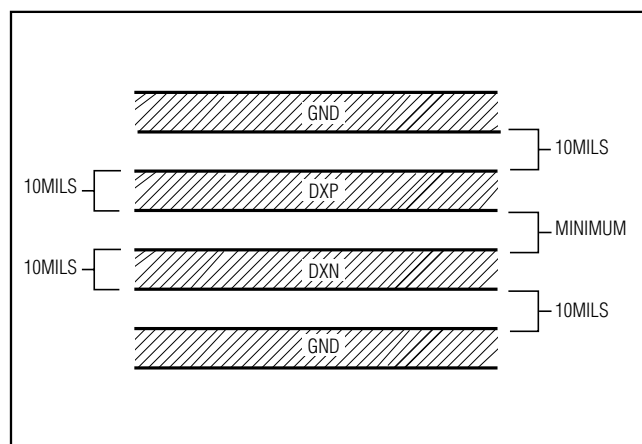

Figure 1. Recommended DXP-DXN PC Traces
- 3) Route the DXP and DXN traces in parallel and in close proximity to each other, away from any higher voltage traces, such as  $+12\text{VDC}$ . Leakage currents from PC board contamination must be dealt with carefully since a  $20\text{M}\Omega$  leakage path from DXP to ground causes about  $+1^{\circ}\text{C}$  error. If high-voltage traces are unavoidable, connect guard traces to GND on either side of the DXP-DXN traces (Figure 1).
- 6) Use wide traces. Narrow traces are more inductive and tend to pick up radiated noise. The 10mil widths and spacings that are recommended in Figure 1 are not absolutely necessary, as they offer only a minor improvement in leakage and noise over narrow traces. Use wider traces when practical.